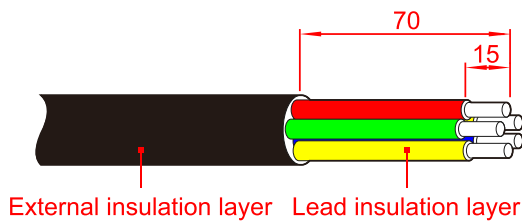

Figure3-23 Strip the AC output wire (unit: mm)
- Step 1 Strip the external insulation layer of AC wire for about 70mm, strip the inner lead insulation layer for about 15mm, as shown in Figure3-23.